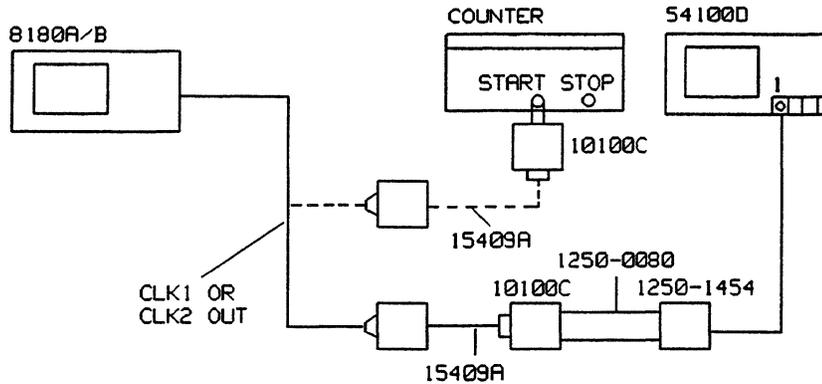

Figure 11-4. Test Setup for the Clock 1 and Clock 2 Width Test
5. Connect the equipment as shown in Figure 11-4 and press RUN.